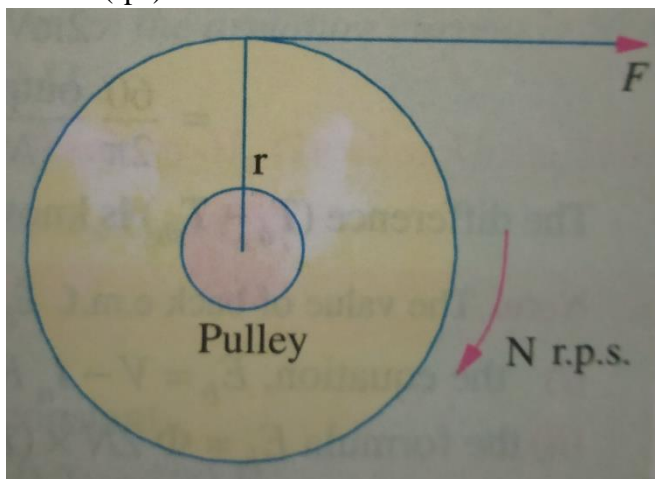

Fig. 2.4 Torque exerted on a pulley
- Let us consider a pulley of radius  $r$  meter as shown in the fig. 2.4. A circumferential force  $F$  is acting upon the pulley to rotate the pulley at a speed of  $N$  revolutions per second (rps).